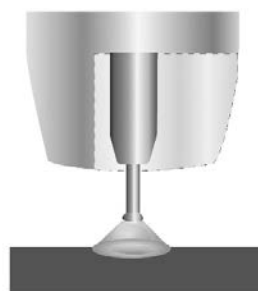

Fig. 32
5. An arc is created at the separation of the droplet and the heat and force of the arc flattens out the droplet into the weld pool. The heat of the arc melts the end of the wire slightly as it feeds towards the base metal (Fig. 32).